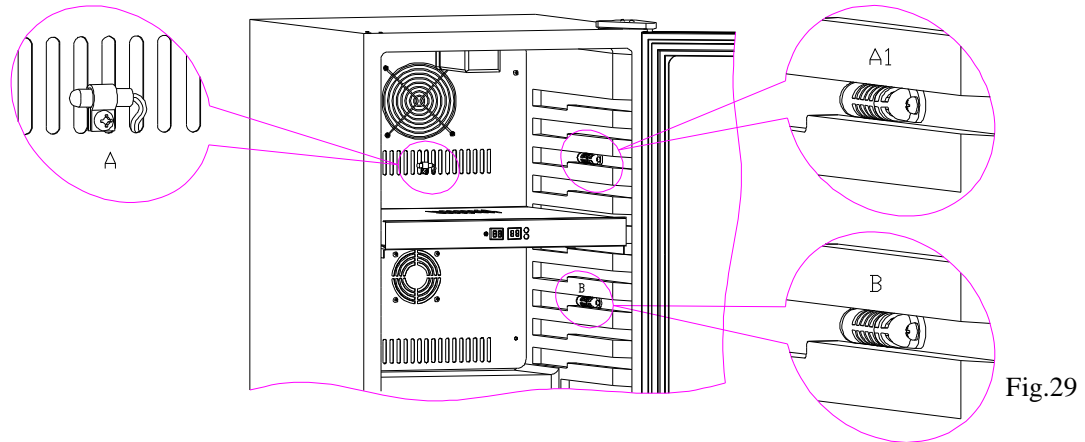
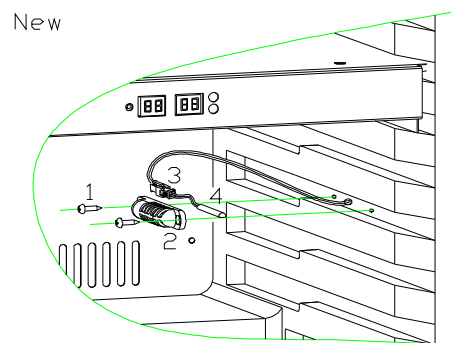
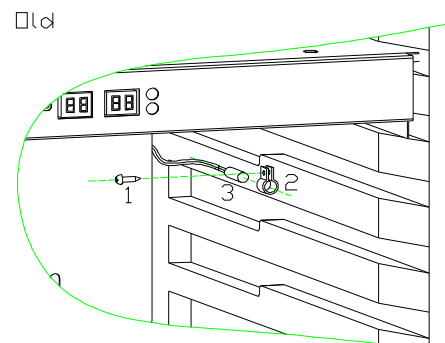

Fig.29
Fig.30
Fig.30.1
According to the different model, sensor is in the two different position. As the diagram(Fig.29) shows below A, A1.
b. As to the sensor in the point A1, there are two installation methods. As the diagram below (Fig.30 & Fig.30.1)
© The old installation version's sensor: remove the air-duct board (page 6), and take off the fixing screw (1), and take off the sensor, and unplug another terminal's from socket X1 (Fig.7) in the PCB board, and replace the sensor with the same model's (Fig.30.1).
Refrigeration compartment sensor is located on (B) of (Fig.29). It has two different installations with 2 different replacements. The replacement is similar with (A1) See (Fig.30 & Fig.30.1)
a. The sensor of the freezing position (A). (Fig.29)
b. The sensor of the refrigerator position, old installation method. (Fig.30.1)